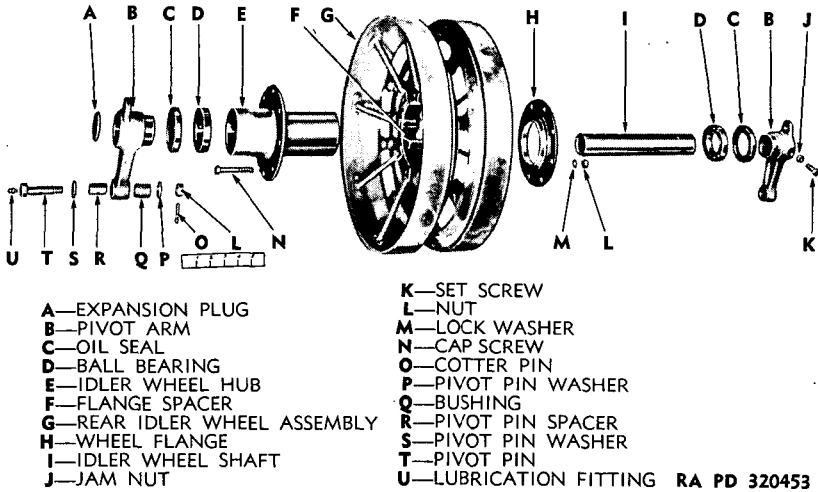

Figure 39 — Track Rear Idler Assembly Disassembled
- b. **Assemble Track Idler Wheel.** Follow procedure outlined under paragraph 44 a and b. Refer to figure 39 for relation of parts.